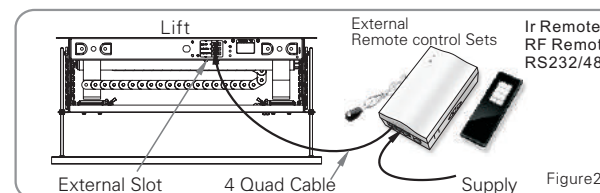

Figure28
- (1)Please fix the external Receiver box on the ceiling and ensure close to the lift.
- (2) Connecting the receiver box and lift with a Quad Cable(Cable Dia must bigger than 4\*0.75mm2, refer to Figure 28)
- (3)For the instruction manual of Receiver box, please refer to single Manual Paper.